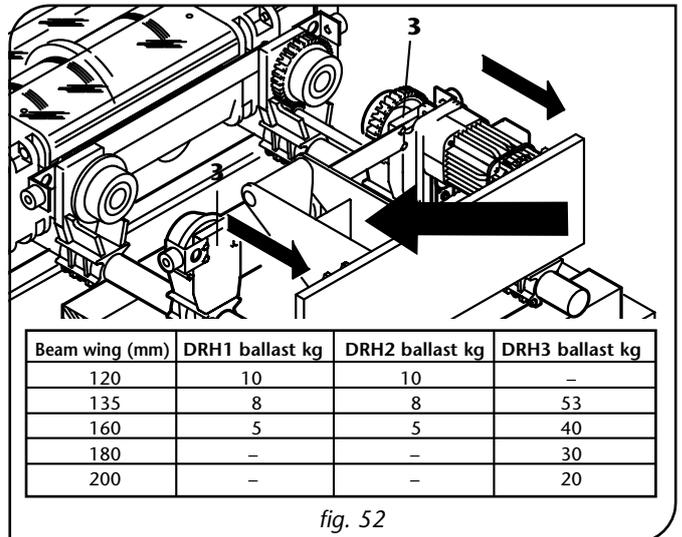

fig. 52
8. Let both plates slide -3- on the bars -6- so as to widen the preset width of the wheels, until the internal space between the wheels is greater than that of the girder wing (fig. 52).
NOTE: In fig. 52 you can see where add the ballast as described in step 17 to pag. 57.
17. **In case of beam width as per fig. 52, add weight into the counterbalance in order to guarantee the balancing of the hoist/trolley.**